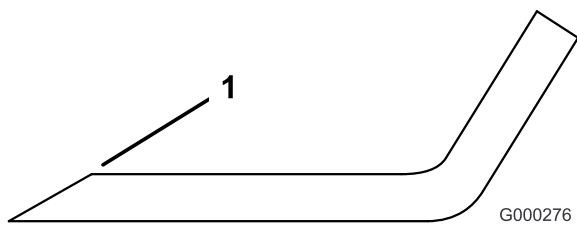

Figure 86
3. Examine the cutting edges of all of the blades and sharpen the cutting edges if they are dull or nicked (Figure 86).
Note: Sharpen only the top of the cutting edge and maintain the original cutting angle to ensure sharpness (Figure 86). The blade will remain balanced if the same amount of metal is removed from both cutting edges.